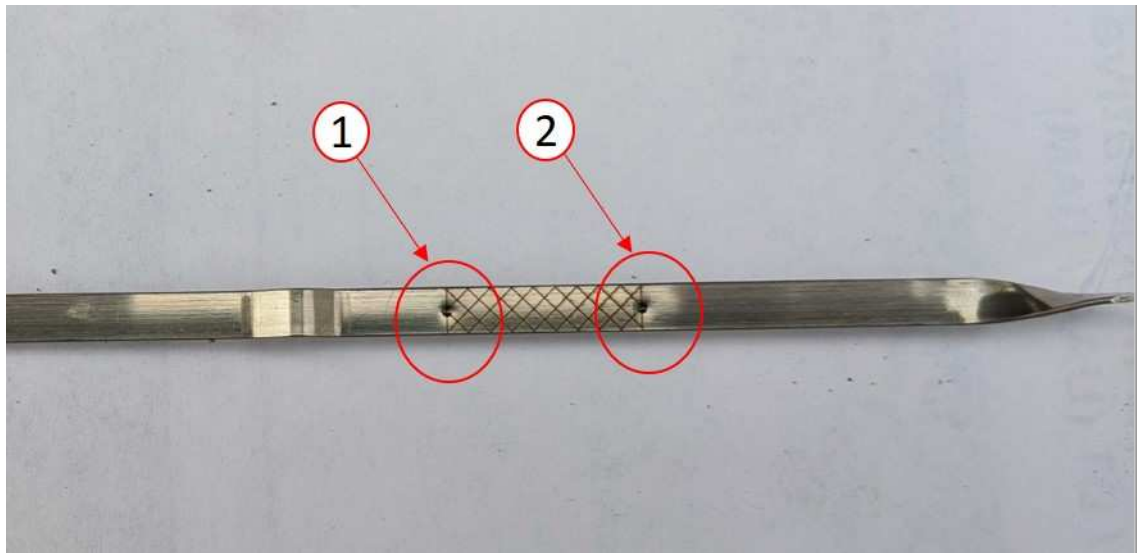

Fig. 1
3. Ensure the oil level is at the "FULL" mark, if necessary top off the oil to the "FULL" mark on the dipstick (Fig. 1).
5. Record the vehicle mileage. Note the oil level is at the 'full' mark 5 minutes after hot shut-down and date (Fig. 1) .